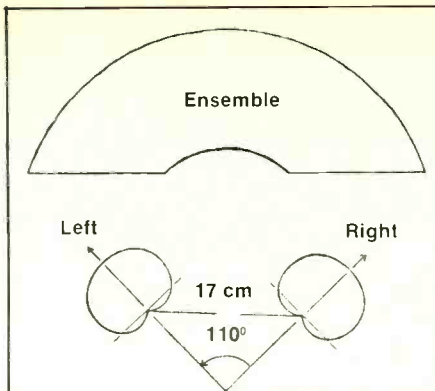

Figure 11: ORTF
5. ORTF (Figure 11) utilizes two cardioids spaced 17cm (6.7 inches) apart, and angled at 110° . The technique was developed by and named after the French national broadcasting network. Some recording engineers have observed that the ORTF technique produces in a hole in the middle of the resultant soundfield. It has been our experience, however, that this effect is dependent upon the "fatness" of the